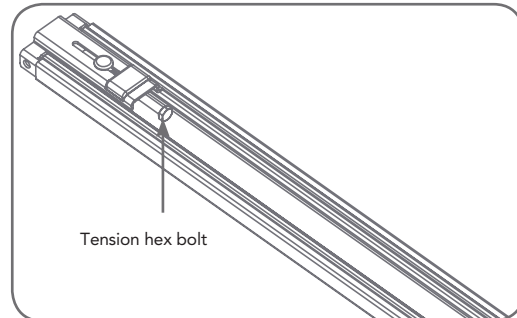

fig 06
- h. Adjust 1/2" tension hex bolt (**Fig. 06**) to tension the chain. When properly tensioned, the chain should sag 5mm from the end of the rail to the middle.